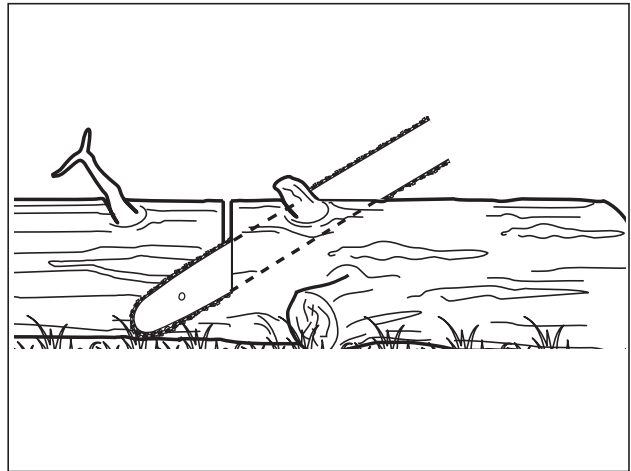

Fig. 24
1. Follow the simple directions for easy cutting. When the log is supported along its entire length, it is cut from the top (overbuck)(Fig.24). Do not let the bar and chain hit the ground.